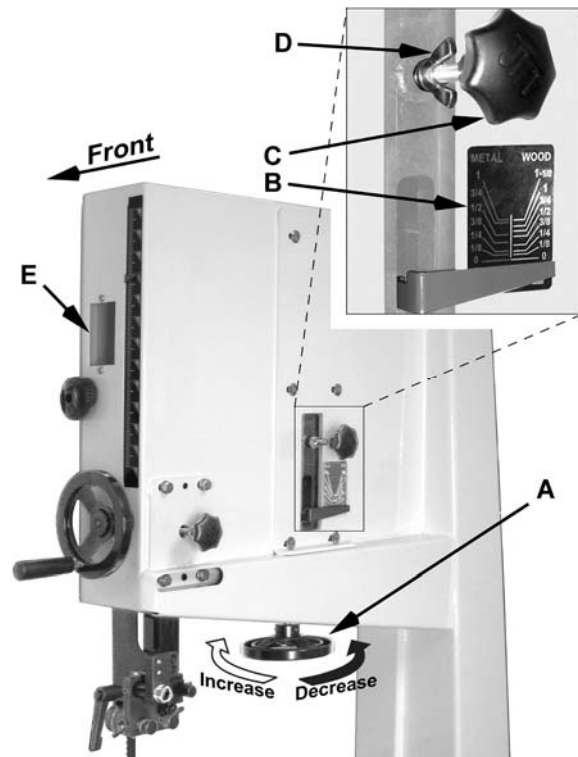

Figure 23
Blade tension is set with the *blade tension handwheel* (A, Figure 23) and is performed following blade replacement and periodically as the blade stretches from use.
Referring to Figure 23:
1. Set the blade tension by rotating the handwheel according to the *arrow directions* in Figure 23.
2. The *gauge* (B) indicates the approximate tension according to the width of the blade in inches. Initially, set the blade tension to correspond to the width of your blade. The VBS-18MW comes with a 3/4" metal working blade, so the tension should be set at 3/4" on the metal working scale when using this blade.